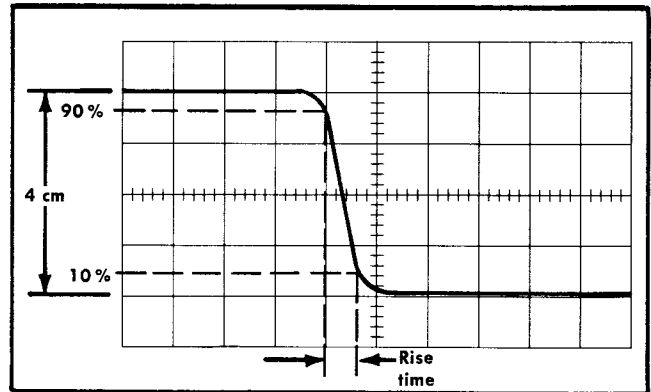

Fig. 5-2. Measuring negative going pulse risetime.
- e. Check the negative risetime of the display (see Fig. 5-2); it should measure 6 nsec or less, from the 10% point to the 90% point.